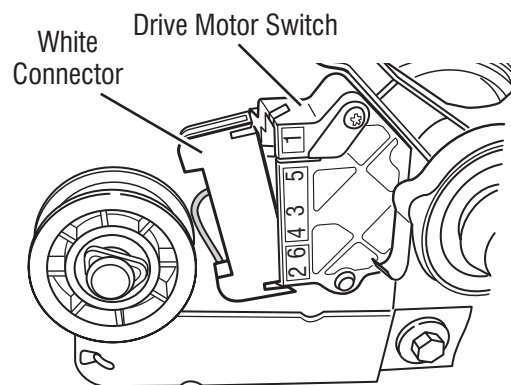

Figure 2 - Remove white connector
8. Remove the white connector from the drive motor switch. See figure 2.